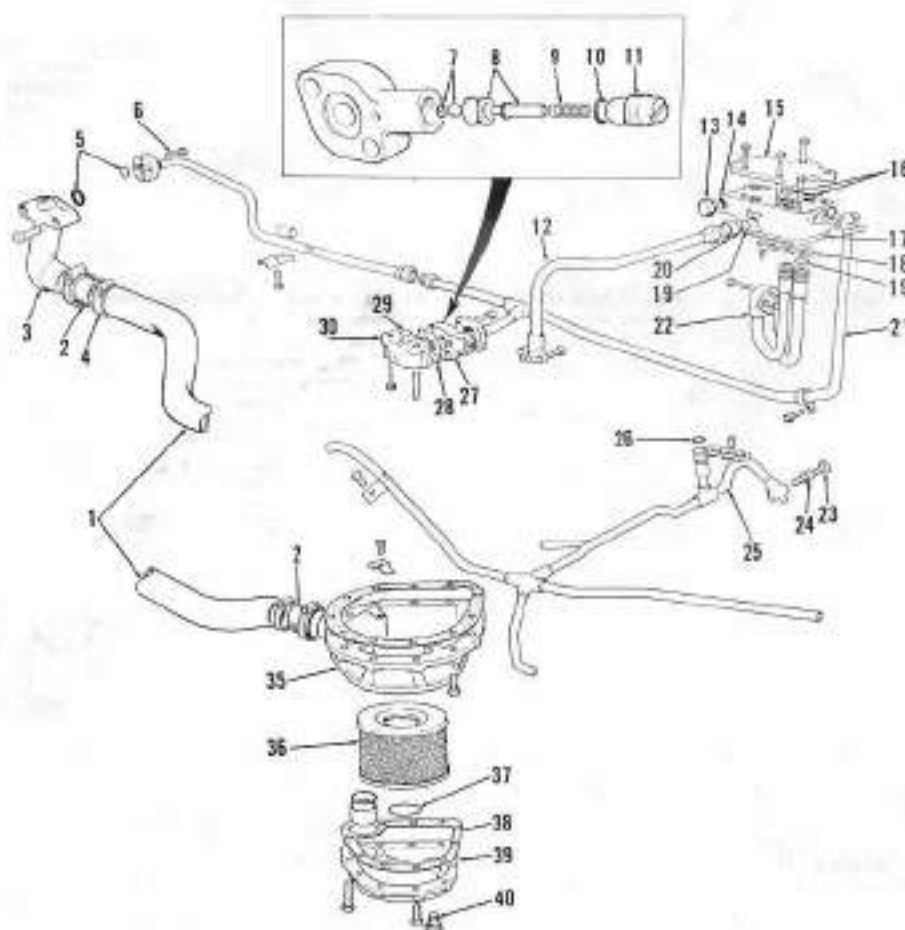

Fig. 314—Exploded view of hydraulic lines and filters for models with single hydraulic pump.
283. Refer to Figs. 314 and 315 for views showing hydraulic lines and filters. All hydraulic lines except control valve to adapter plate line (22-Fig. 314 or 19-Fig. 315) and lubrication pipes (25-Fig. 314) are located externally. Remote control valve(s) (not shown) are fitted between adapter plate and cover plate (15-Fig. 314 or 11-Fig. 315).
Models with single pump assembly (Fig. 314) are equipped with full flow suction filter and warning light as described for other models in paragraph 282.
285. Refer to Fig. 318 for exploded view of remote control valve that can be used to operate remote cylinders independently of tractor hydraulic lift system. Valve cover plate is not shown; refer to Fig. 314 or 315.
Fig. 315—Exploded view of high pressure hydraulic lines for models with dual hydraulic pump; pump suction lines, filters and lubrication line are as shown in Fig. 314 for models with single hydraulic pump. Combining valve (14) separates flow of one pump to tractor hydraulic piston and flow of second pump to remote control valve, or combines flow of both pumps to remote control valve.